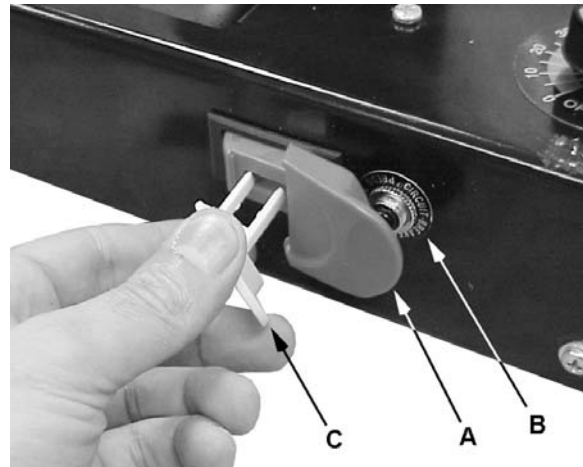

Figure 4
The *On/Off Switch* (A, Fig. 4) is located on the front of the sander. To turn the sander on, pull the switch to the on position. To turn the sander off, push the switch to the off position.
2. Pull the *key* (C, Fig. 4) out. The switch cannot be turned on with the key removed.
If the breaker is tripped, turn the sander off and reset the circuit breaker by pressing the *button* (B, Fig. 4).